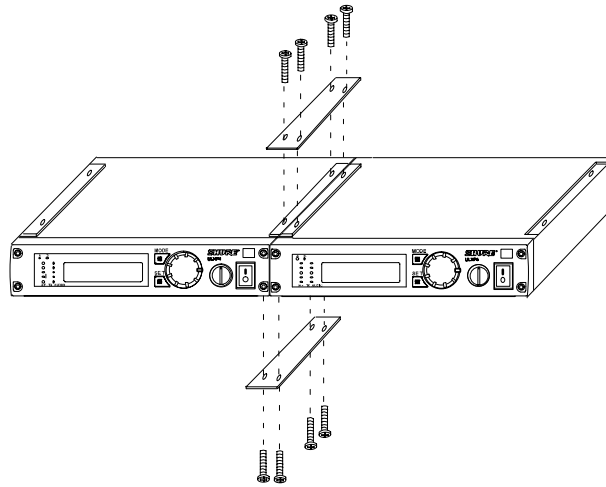

FIGURE 49
2. Place the supplied straddle bars in the recesses on the top and bottom of the receivers, so that the bars overlap both receivers. Refer to Figure 49.